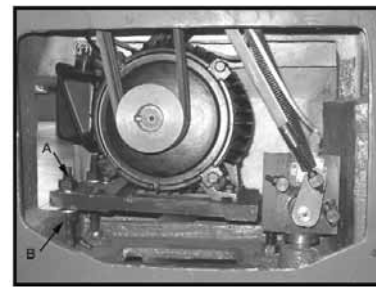

Fig. 20
3. Loosen hex nut (A, Fig.20). Place scrap piece of wood under motor to act as lever. Lift motor up and block temporarily.
6. Tension belts by loosening nut (B, Fig.20) and tighten nut (A, Fig.20) until light finger pressure causes approximately 3/4" deflection on each belt.